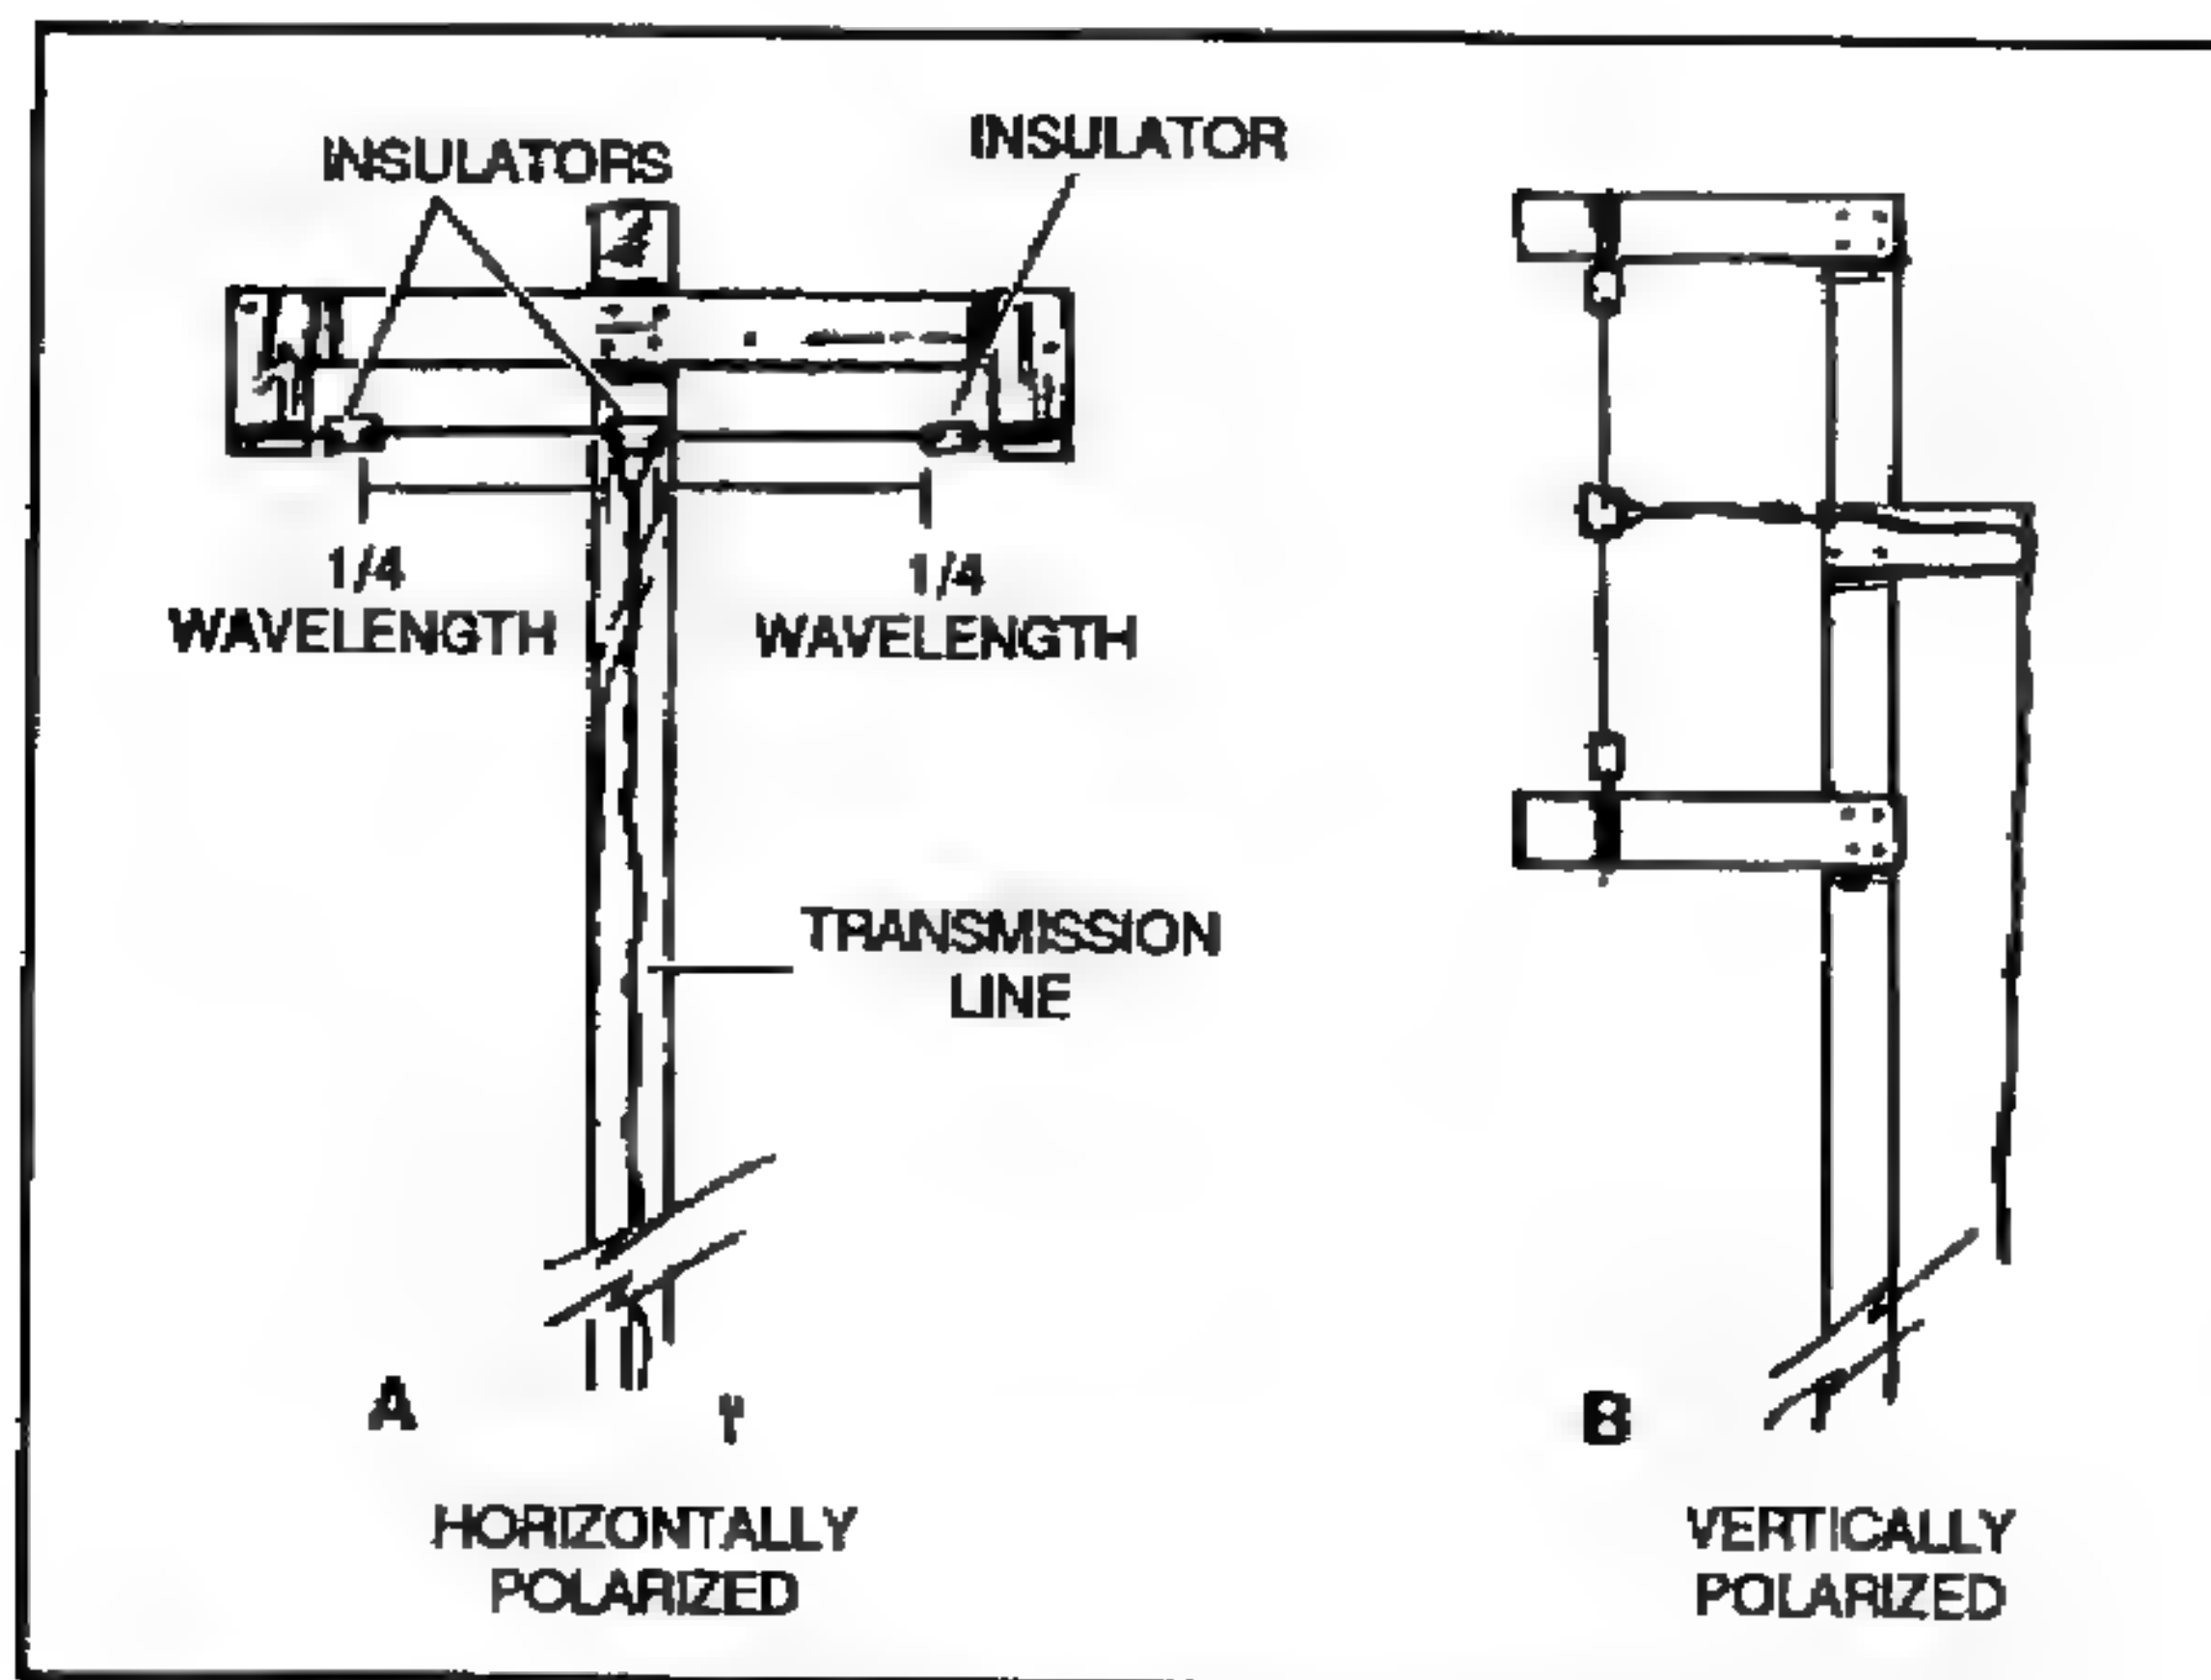

Figure 7-7. Center-fed half-wave antenna, supported.
(1) Compute the length of a half-wave antenna by using the formula in paragraph 7-5. Cut the wires as close as possible to the correct length; this is very important.
(2) Use a transmission line for conducting electrical energy from one point to another and for transferring the output of a transmitter to an antenna. Although it is possible to connect an antenna directly to a transmitter, the antenna is usually located some distance away.
(3) Support center-fed half-wave FM antennas entirely with pieces of wood. (A horizontal antenna of this type is shown in A, Figure 7-7, page 7-8, and a vertical antenna in B, Figure 7-7.) Rotate these antennas to any position to obtain the best performance.